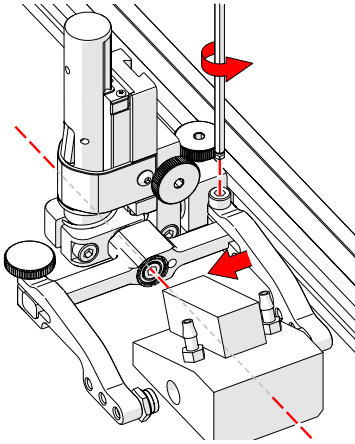

Fig. 62 - Adjust inner arm
4. Position the wedge on the inner probe holder arm (Fig. 62).
TIP: The probe holder yoke can accommodate many different probe and wedge sizes of varying widths. It is best to centre the wedge with the yoke's pivot axis. This can reduce wedge tipping when scanning. Position the inner probe holder arm accordingly (Fig. 62) using the supplied 3 mm hex driver (Fig. 14).